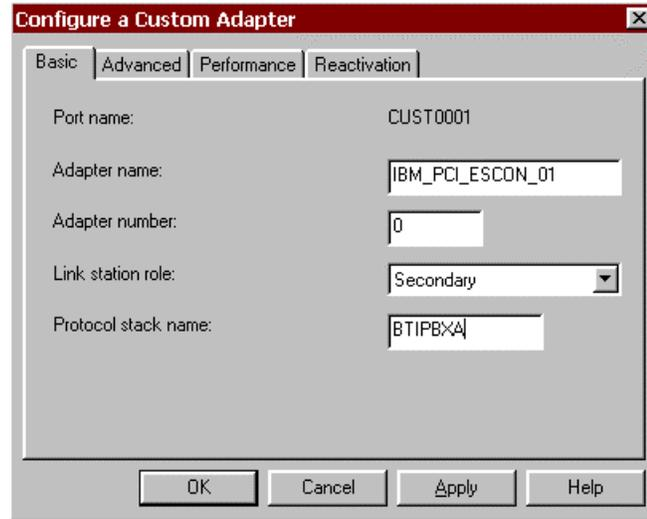

Figure 10-4. Configure a Custom Adapter
3. The **Configure a Custom Adapter** dialog will appear (Figure 10-4). Note that the **Reactivation** tab is new in version 4.